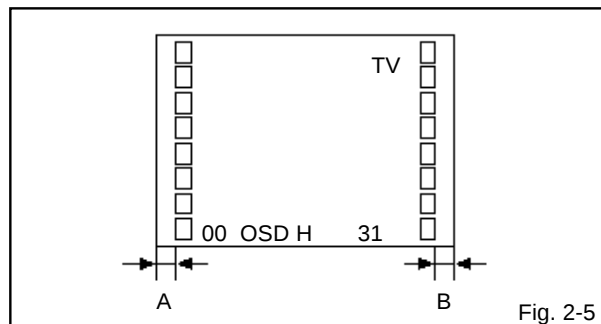

Fig. 2-5
2. Press the VOL. UP/DOWN button on the remote control until the difference of A and B becomes minimum and up 2 steps. (**Refer to Fig. 2-5**)